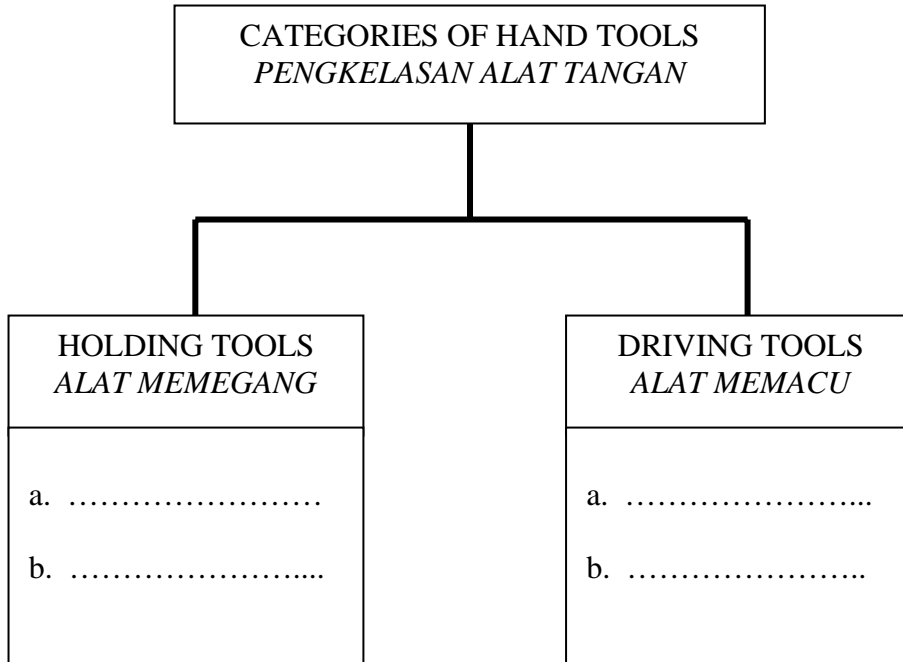

FIGURE 1
2. Figure 1 shows the categories of the hand tools in an engineering lab.